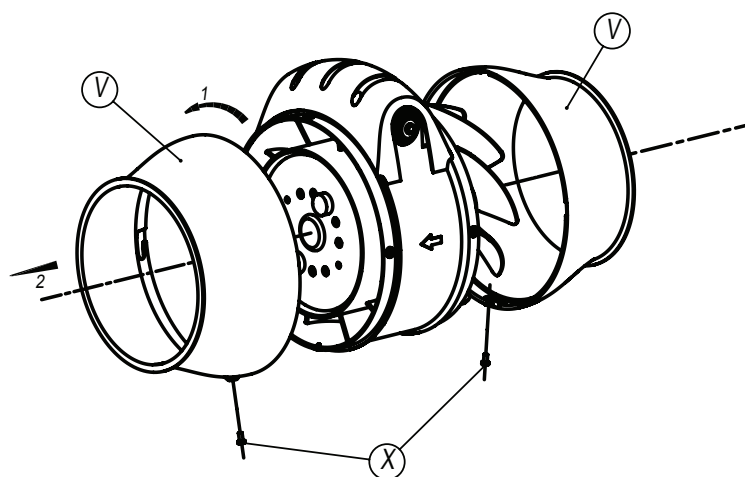

Fig. 6
- Remove the two reducer pipes (V): Loosen the screws on the reducer pipes, turn each reducer pipe about 9° in an anti-clockwise direction and remove the pipe by pulling it (see fig. 6).